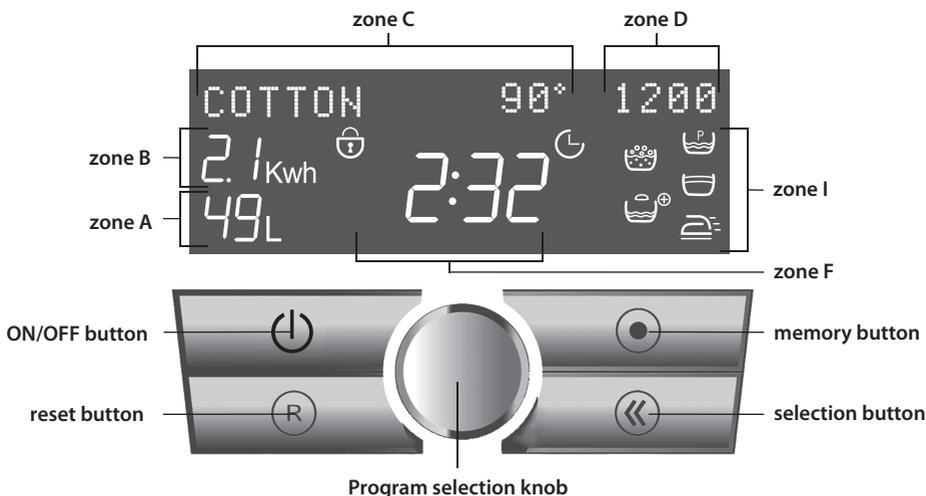

Figure 3 – Display
Time assignment of the delayed washing start is provided. It is highlighted on the display in accordance with Figure 3.
Selection of the auxiliary operations, if needed, can be performed by the Knob in accordance with Figure 3.
Following zones are situated on the display in accordance with Fig. 3:
After temperature selection, selection of the drum speed during spin (hereafter, “spinning speed”) of the value below the stipulated speed by washing program is available. After the temperature selection in zone D (in accordance with Fig. 3) has been confirmed, maximal value of RPM spin for the selected washing program begins to blink. When RPM spin needs to be changed, turn the Knob. Digital values of RPM spin changes gradually from maximal (depending on model and used program in accordance with Tables 1 and 4) to minimal: “0” (spin is switched off) at interval of 200 rpm. On selection of desired number of RPM spin, push the Knob: sound signal sounds and “RPM spin value” stops to blink. Simultaneously, as the RMP spin is selected, electrical power, water consumption, and washing duration are changed accordantly.
After RPM spin has been selected, selection of the auxiliary operations can be performed by pushing the Knob. One of the auxiliary operation symbols starts to blink in zone I in accordance with Fig. 3. Switching from one auxiliary operation to another starting to blink is performed by turning the Knob. On selection of desired auxiliary operation, push the Knob. Symbol blinking stops. Every Knob pushing is accompanied by sound signal. Simultaneously, as the auxiliary operation is selected, electrical power, water consumption, and washing duration are changed accordantly.
**Time assignment of the delayed washing start** is performed after the symbol a has been selected (L) on the display. Maximal period of washing start delay of 24 hours ("24:H") appears in zone F in accordance with Fig. 3. The time is changed gradually at interval of 1 hour ("1:H") by turning the Knob clockwise or counterclockwise.